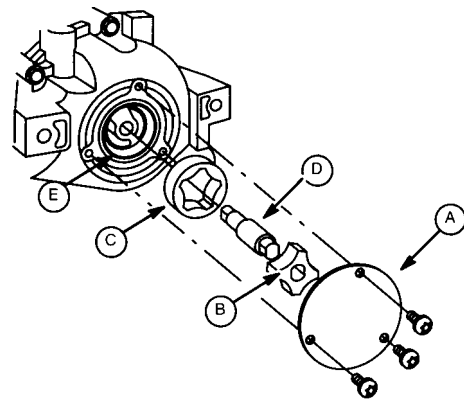

Fig. 10 - Remove Oil Pump
1. Remove the following parts, Fig. 10.